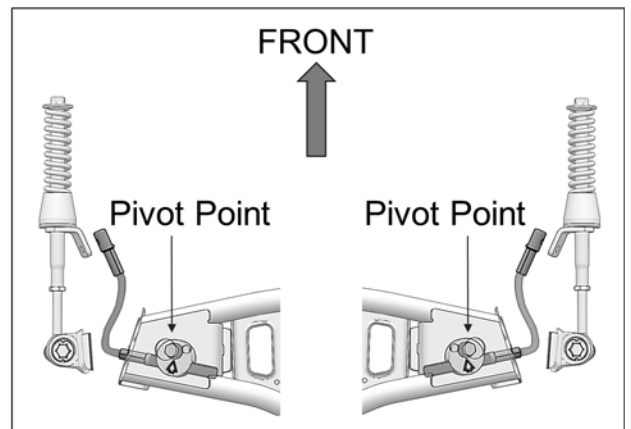

Fig. 25
16. Make sure aluminum disk pivot point is installed in front of steering limiter cable. See Fig. 25